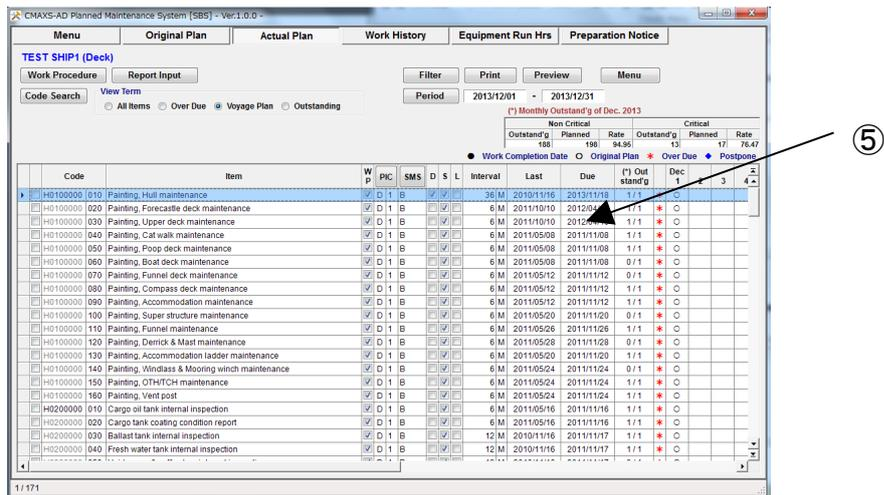

Fig.6-11 Actual Plan Screen
(2) After inputting necessary data, select "Page2" tab if you need to change next due date.
(3) Select next due date by "Next Due Date" pull down menu.
(4) Select [Save].
(5) Due Date is updated to [Next Due Date] (Fig.6-11).